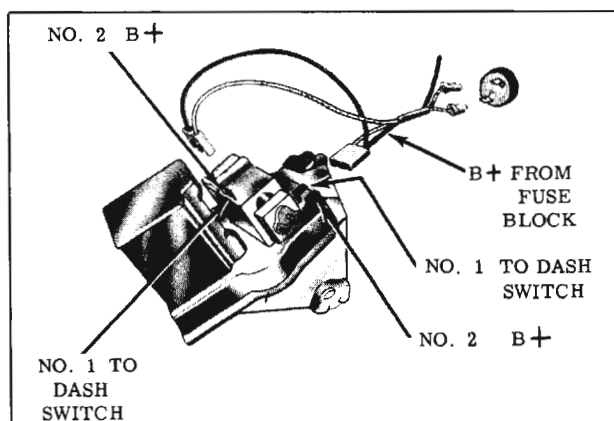

Fig. 14-185 Checking Connections
2. If all items in Step 1 check out, start wiper motor only, then push washer button and listen for "click" as washer relay pulls in. If no "click" is heard, check for 12 volts at terminal No. 2 Fig. 14-185. No voltage indicates defective wiring. If "click" is heard, proceed to Step 4.
3. If correct voltage was found in Step No. 2, connect a jumper wire from terminal No. 1 to ground (Fig. 14-185) and operate wiper. If washer relay "click" is heard and pump functions correctly, a defective dash switch or an open circuit between washer pump and dash switch is indicated - "No Click" indicates an open relay coil.